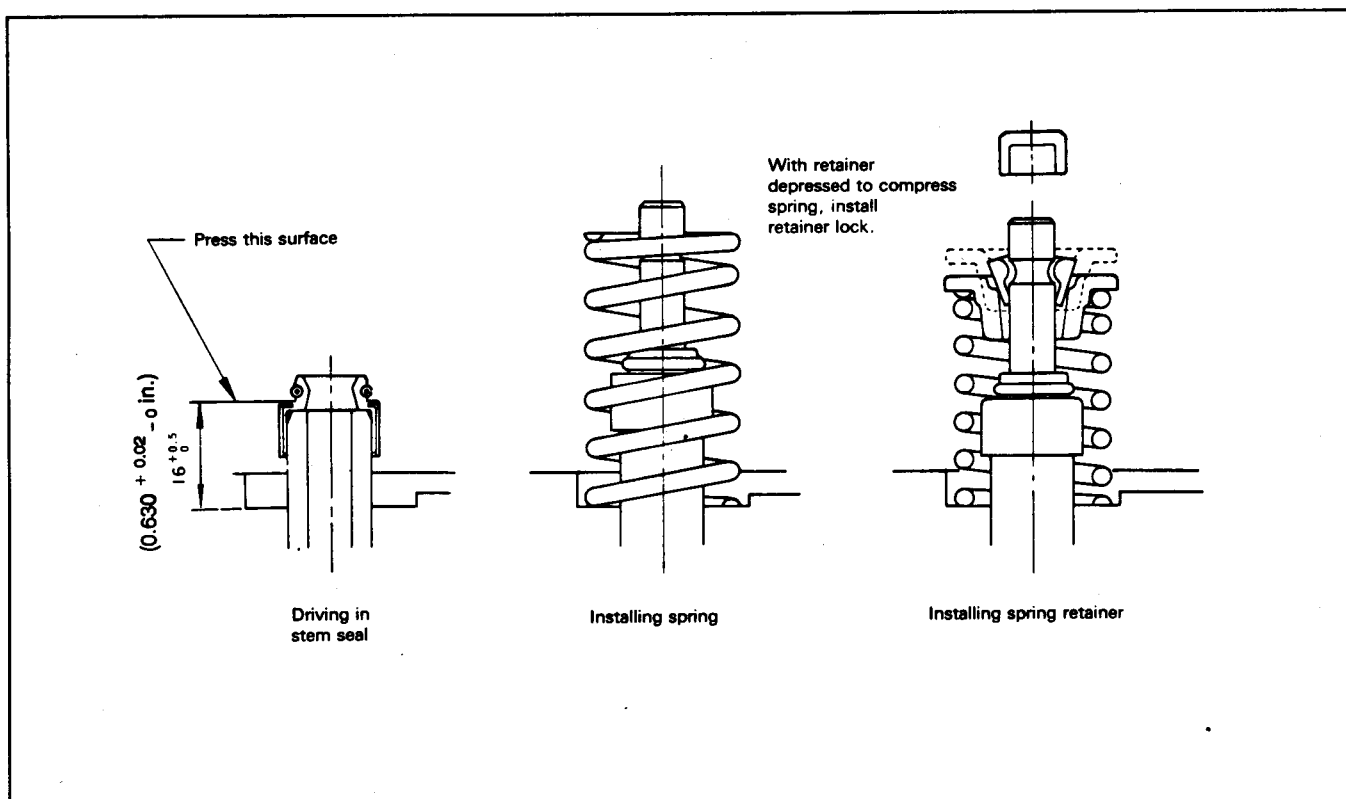

Figure 80
4. Install new valve stem seals onto the valve guides (Fig. 80). DO NOT install used seals.